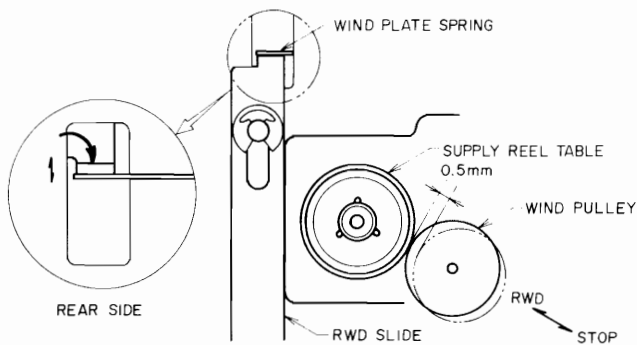

Fig. 4
4. RWD SLIDE ADJUSTMENT (See Fig. 4)